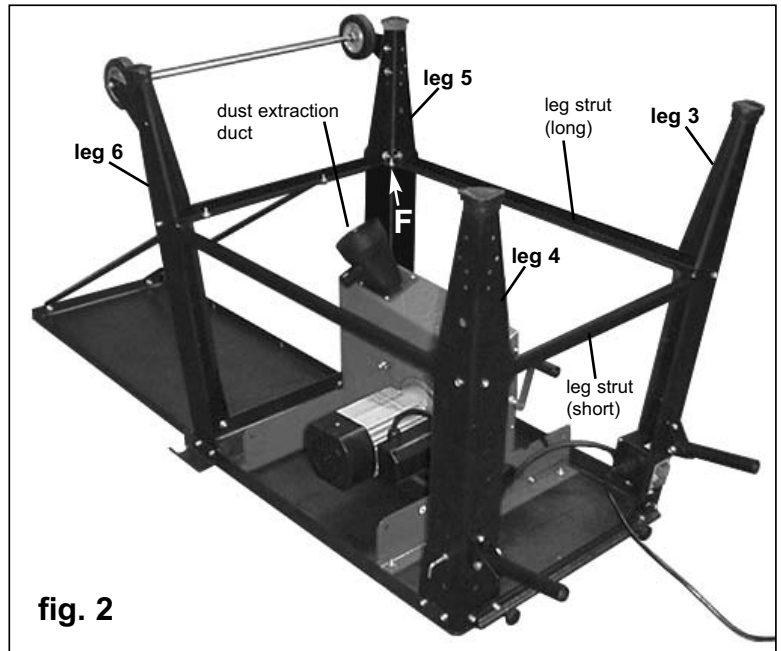
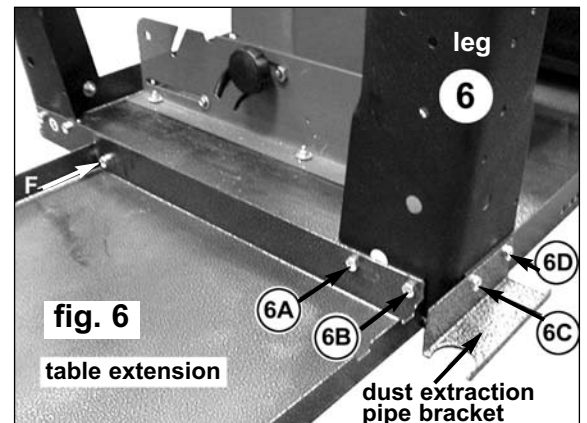
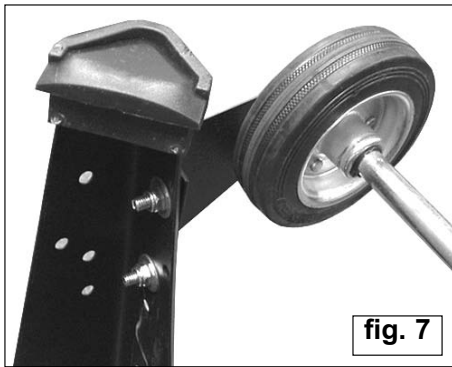

fig. 2
fig. 6
fig. 7
- 4.6 Attach leg 6 as shown in fig.6 using 2 sets of fixings at positions 6C & 6D. At the same time attach the dust extraction pipe bracket which uses the same fixing positions. The other two fixing points will be shared with the table extension which is fitted later.
- 4.7 Assemble a short leg strut between legs 3 & 4 and between legs 5 & 6 using a single set of fixings at each end of each strut (see fig.2) Ensure that the bent metal edges of the struts will be facing the floor when the unit is turned the right way up.
- 4.8 Assemble a long leg strut between legs 3 & 5 and between legs 4 & 6 using a single set of fixings at each end of each strut (see fig.2) Ensure that the bent metal edges of the struts will be facing the floor when the unit is turned the right way up.
- 4.9 Where the struts overlap each other on the inside of each leg (four places) bolt them together with a single set of fixings. (See 'F' in fig.2)
- 4.10 If required, extend the length of the table by bolting the table extension to the end of the main table as shown in fig.2 & 6. The extension is offset towards leg 6 and shares two of the leg fixings. Use 3 sets of fixings in positions 6A, 6B and at position 'F' as shown in fig.6.
- 4.11 Attach the two bracing struts between the outer edge of the extension and the adjacent leg cross brace as shown in fig.2. Use a single set of fixings at each end of each strut.
- 4.15 Attach the dust extraction duct (part no.38) to the lower face of the red box enclosing the blade using 4 bolts M4 x 12mm. See fig.2.
- 4.16 **Attaching the wheels.** The wheels, axle and wheel brackets should be assembled as shown in fig.2. The wheel brackets are 'handed' and should be orientated as shown in fig.7. Take the wheel axle and attach two circlips to the two grooves nearest to the centre of the axle. Slide a wheel over each end of the axle followed by the correct bracket. Retain the wheels and brackets by attaching another circlip to each end of the axle.
- 4.17 Attach the wheel brackets to legs 5 & 6 respectively using two sets of fixings for each bracket as shown in fig.7. Leave the fixings loose at this stage.